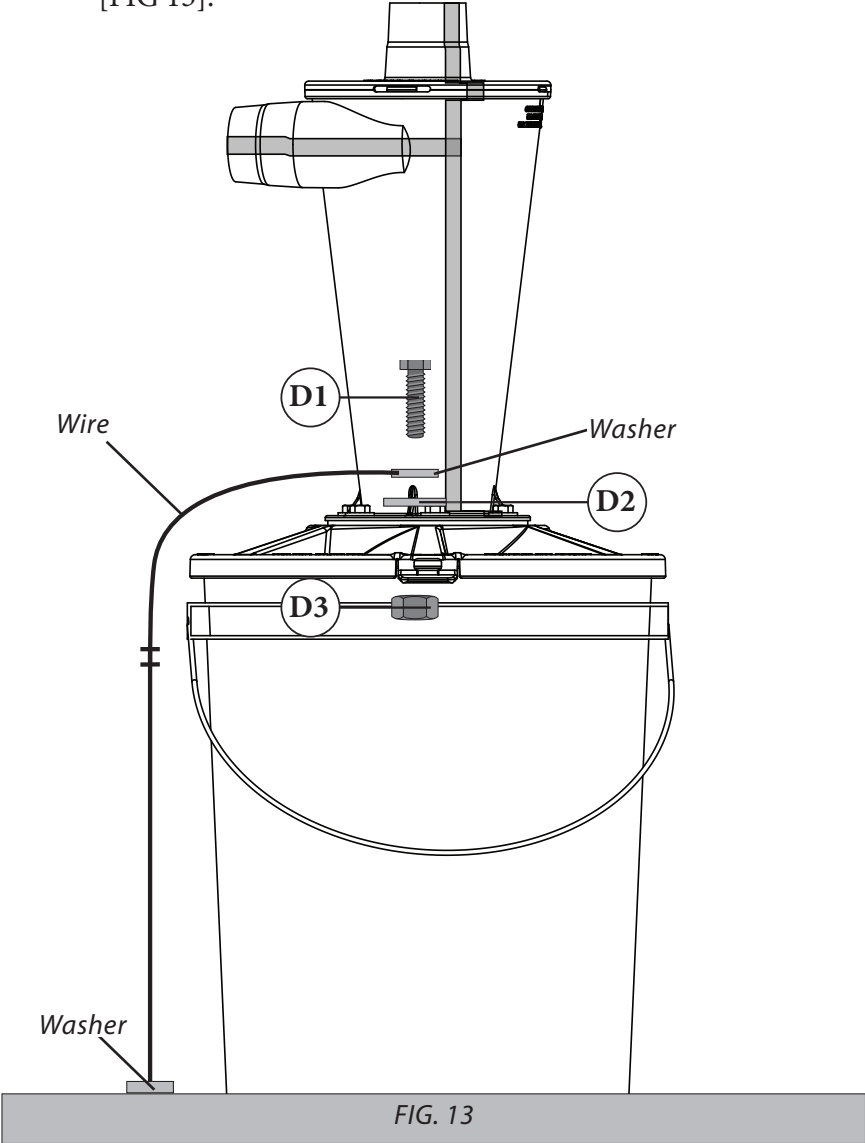

FIG. 13
- 2 For added grounding, attach a self-supplied wire with a ring terminal on one end and a washer tied to the other end when installing one of the bolts in step 2 on page 9. The wire must be long enough for the washer to lie on the floor [FIG 13].